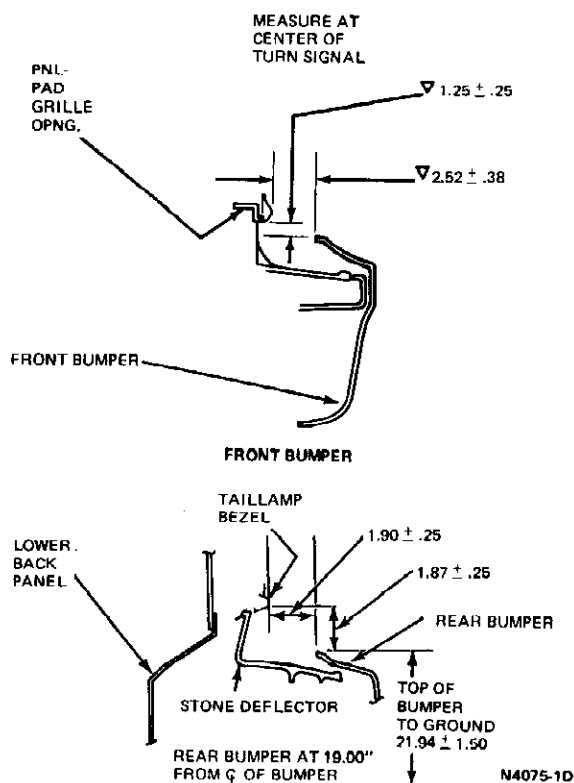

FIG. 5 Bumper Adjustment Specifications
in Fig. 5. Then, adjust the bumper for body clearance at the centerline of the parking lamp so that the vertical and horizontal body to bumper
dimensions meet the specifications in Fig. 5. Tighten the isolator-to-reinforcement bolts to 35-50 ft-lbs torque.
4. Adjust the bumper height so that the distance from the top edge to the ground meets the specifications in Fig. 5. Then, adjust the bumper for body clearance so that the vertical and horizontal body to bumper dimensions meet the specifications in Fig. 5. Tighten the isolator-to-reinforcement bolts to 35-50 ft-lbs torque.